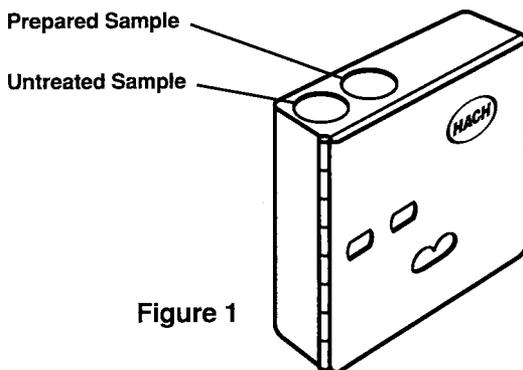

Figure 1
1. Fill a color viewing tube to the lower edge of frosted area (5 mL) with clear water and place it in the left top opening of the comparator (untreated sample, Figure 1).
3. Open one DPD Total Chlorine Reagent Powder Pillow. Add the contents of the pillow to the test sample. Let stand for three minutes, but not more than six minutes, to let the color develop. Place the sample in the right top opening of the comparator (prepared sample, Figure 1).